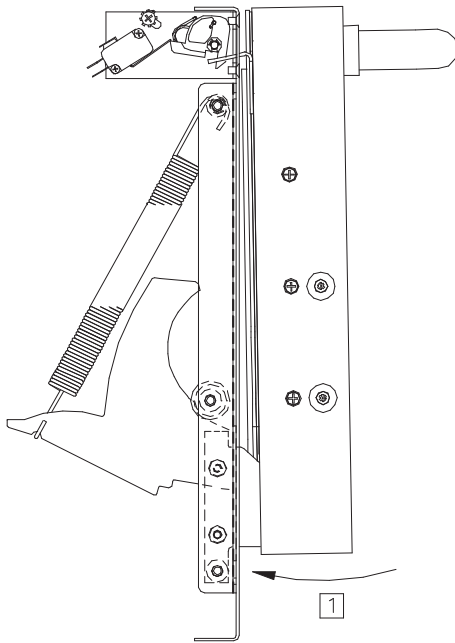
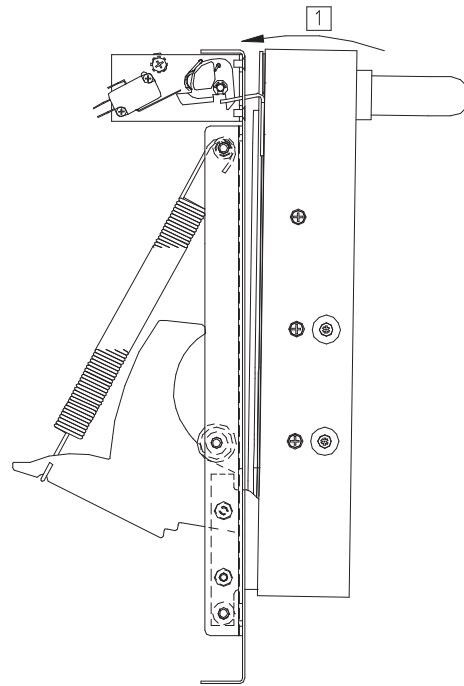

FIGURE 27: Mis-adjusted Oven Door
FIGURE 28: Mis-adjusted Oven Door
1. The doors in Figures 27 and 28 are adjusted incorrectly. Note how the bottom (Figure 27) and top (Figure 28) of the door can be rotated away from the Flange.